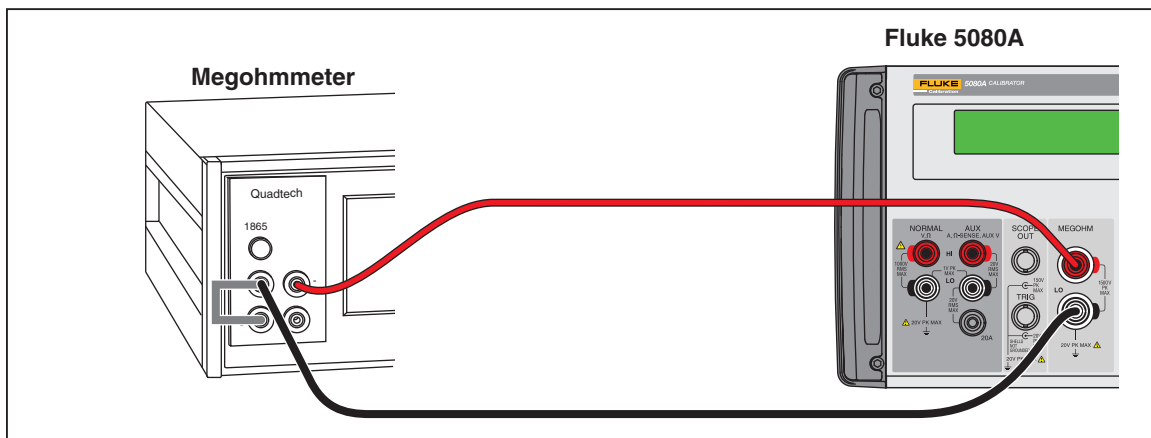

Figure 9. High Resistance Verification for 1 GΩ and higher
- Connect the Product directly to the megohmmeter as shown in Figure 9. Make sure you reverse the polarity.